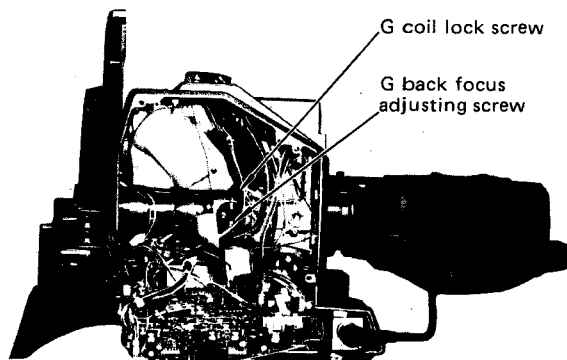

Fig. 5-4-1
- o Loosen the G coil lock screw (G LOCK) slightly. (Fig. 5-4-1)
- o Zoom out (wide angle) and adjust the focus by turning the G backfocus adjusting screw (G BACK-FOCUS). (Fig. 5-4-1)